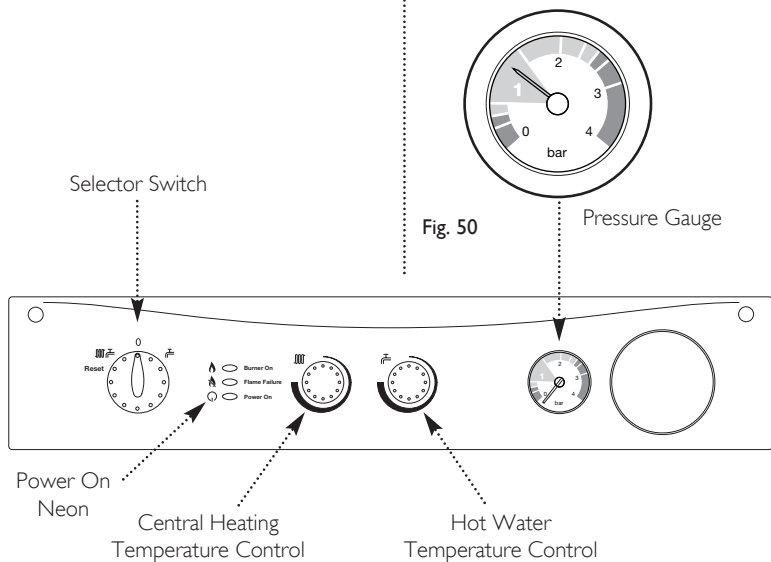

Fig. 51
2. Set the temperature controls to maximum and the selector switch to the Off position (Fig. 51).
5. Turn the selector switch fully anticlockwise against the spring pressure to the reset position and hold for 2 seconds to reset the boiler (Fig. 51).
6. Turn the selector switch to the Central Heating and Domestic Hot Water position (☀️). The power On neon (Ⓢ) will illuminate (Fig. 51).